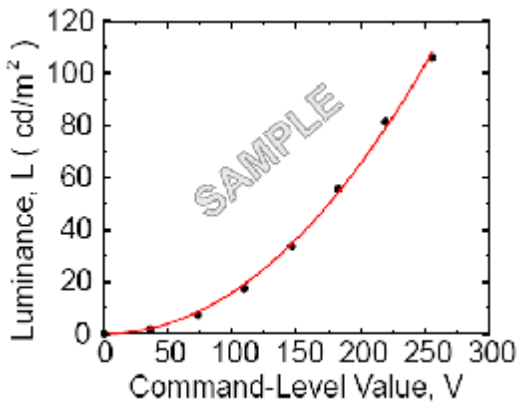
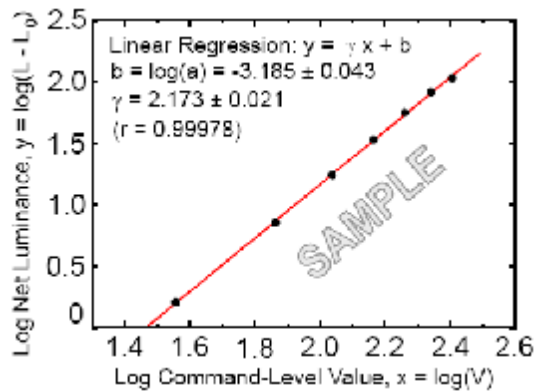

FIG. 5 Sample Luminance vs. gray scale (using a 256 bit gray scale)
FIG. 6 Sample Log-log plot of luminance vs. gray scale
[Figure 6] Power sequence
- GSR is the rate of gamma shift at up, down, left and right 60 degree viewing angle compare with center gamma. For more information see FIG 5 and FIG 6 **(By EZ Contrast)**
The GAMMA we calculate from the log-log representation (FIG. 6)